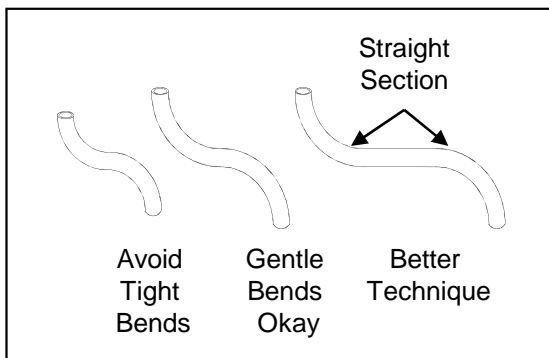

Figure 11
13.5 Avoid tight S-curves as they have the greatest negative effect on fiber bundle blowing performance. Make any S-curves as flowing and gentle as possible. Better solution is to install a straight section of run between the curves to reduce friction / drag on the moving fiber bundle. **See Fig. 11.**